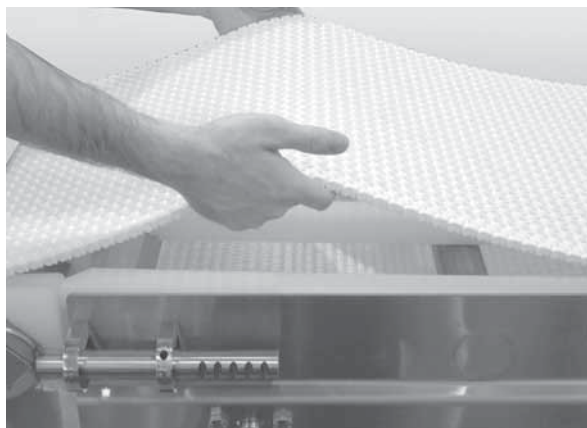

Figure 44
3. Lift up on the belt (**Figure 44**).